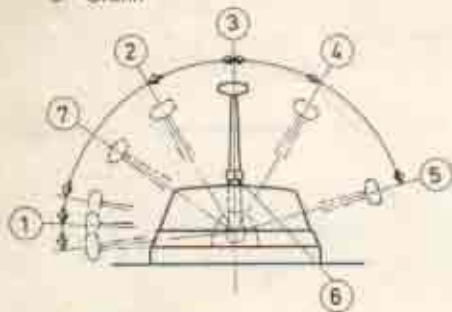

Fig. 8 Teleflex controls
- 2 Place the control lever in neutral. Disengage the control lever with the disengaging latch so that only the engine speed is operated. Set the control lever to  $\frac{1}{4}$  max. throttle. See Fig. 8.
The ALBIN AD-21 is fitted with a spring-loaded type reverse gear which requires little operating effort so that it is possible to install a so-called combined speed-gear control lever. With this type of control, both the reverse gear and engine speed are operated by means of a single control lever (see Fig. 8).